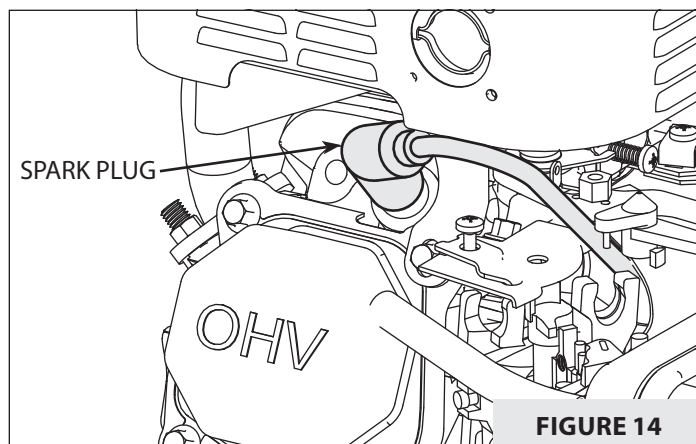

FIGURE 14
1. Disconnect the spark plug wire and secure it away from the spark plug. **SEE FIGURE 14** (on page 19).
1. Disconnect the spark plug wire and secure it away from the spark plug. **SEE FIGURE 14.**